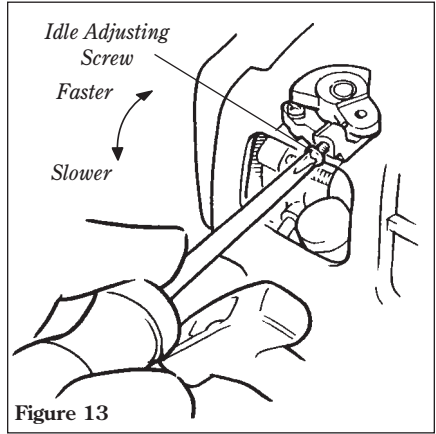

Figure 13
2. If the attachment rotates when the engine is at idle, reduce the idle speed by turning the idle adjustment screw counter-clockwise. See Figure 13.